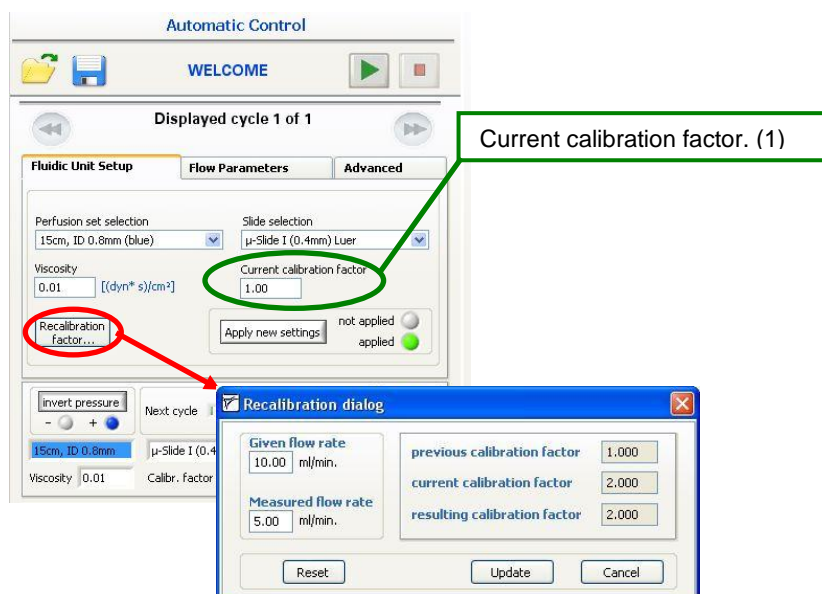

Figure 22: Recalibration Factor
This function is reached by clicking on the 'Recalibration factor... ' button, after which the 'Recalibration dialog' box will appear (see Figure 22).
The current calibration factor is indicated in the register tab as control (1) in Figure 22. The default value is 1.00 (for water at 20°C).